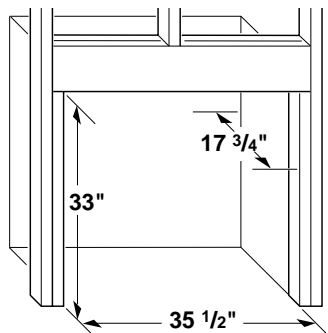
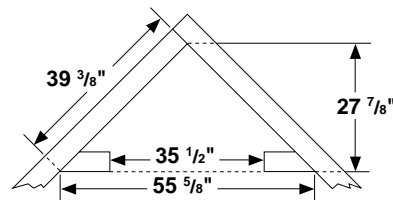

Figure 13 - Rough Opening for Installing in Wall
Figure 14 - Rough Opening for Installing in Corner (for Models VYGF33NRA & VYGF33PRA only)
1. Frame in rough opening. Use dimensions shown in Figure 13 for the rough opening. If installing in a corner, use dimensions shown in Figure 14 for the rough opening. The height is 33" which is the same as the wall opening above.